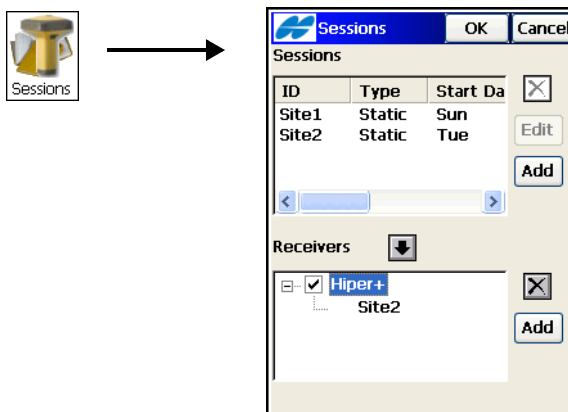

Figure 6-50. Sessions
To create or edit GPS sessions of the automatic survey for post-processing, tap the **Sessions** icon. The *Sessions* (Figure 6-50) screen displays.
- **OK** – saves the changes and returns to the *Sessions* screen (Figure 6-50 on page 6-45).